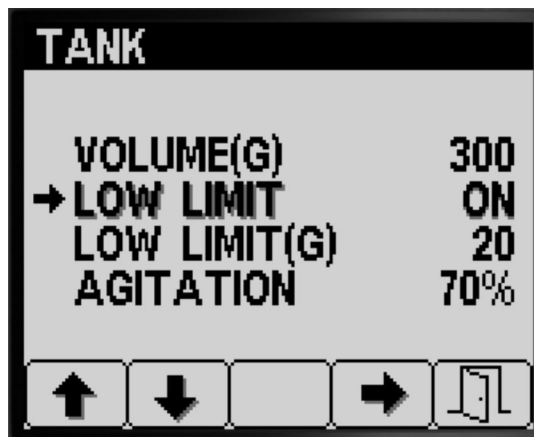

Figure 13
1. Press button 1 or 2 to navigate to the LOW LIMIT option (Figure 13).
2. Press button 4 to turn on or turn off the limit indicator for the low tank volume (Figure 13).